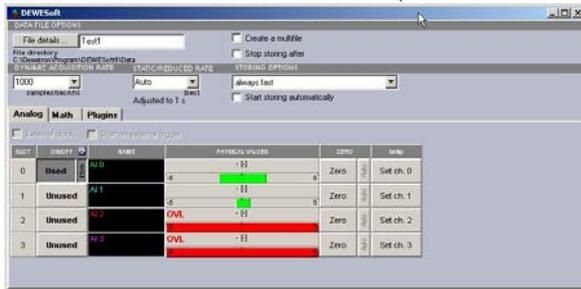

Figure 89 ShowStyle = 0
0...hides the whole menu bar (hides menu and buttons, cf. Figure 89),